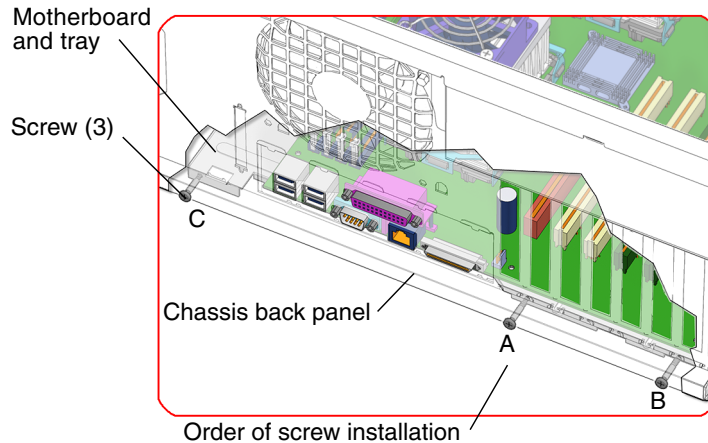

FIGURE 11-42 Fastening the Motherboard and Tray to the Outside of the Chassis
9. Fasten the motherboard tray to the outside of the chassis (FIGURE 11-42).